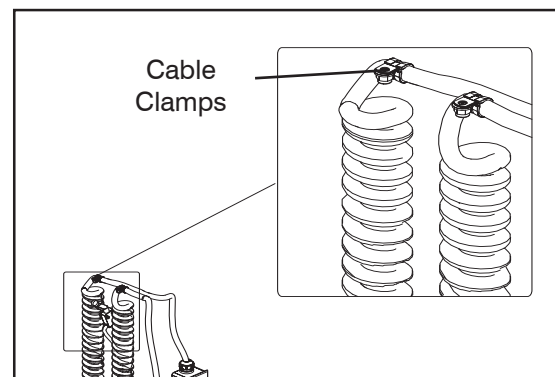

Figure 5-8. Tie Wraps and Cable Clamp Removal
2. Remove the tie wraps and cable clamps off the cables at the mast top. See Figure 5-8.